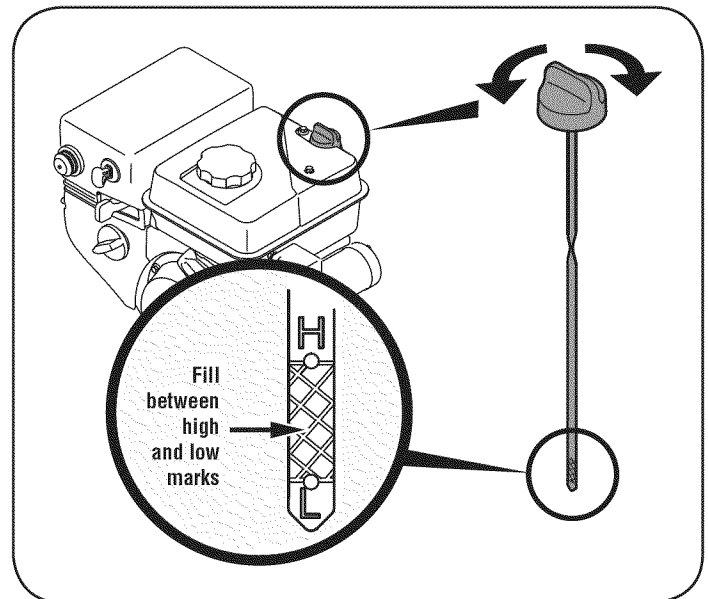

Figure 13
3. Remove the oil filler cap/dipstick. If level is low, slowly add oil until oil level registers between high (H) and low (L). See Figure 13.